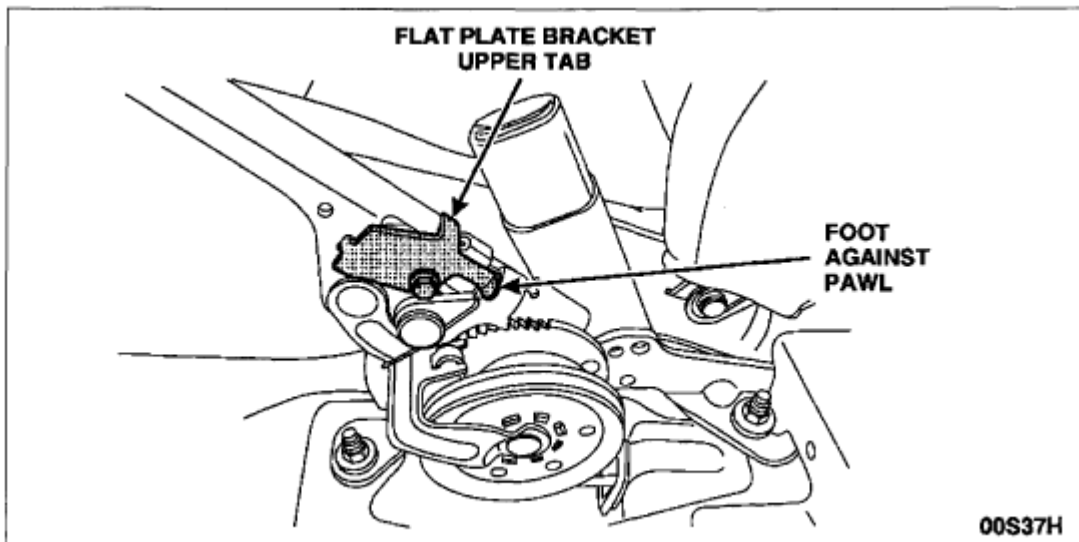

FIGURE 8
- On 2001 model year vehicles, position the flat plate bracket on the control assembly. Make sure the upper tab of the bracket is flush against the control assembly and the bracket is positioned as far rearward as possible so the foot of the bracket is against the pawl. Install the self-tapping screw and tighten to 3.2 Nm (29 lb-in). See Figure 8.